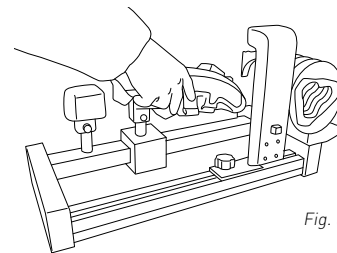

Fig. 5
- *1. Loosen the shoe as far as possible and insert it on the support starting from the toe and then attaching the heel. At this point, make sure that the heel adheres correctly to the support and whilst applying pressure to this push forward the tip (Fig. 5). To reduce any lateral movement of the shoe, tighten the shoe with your own tie-up system.